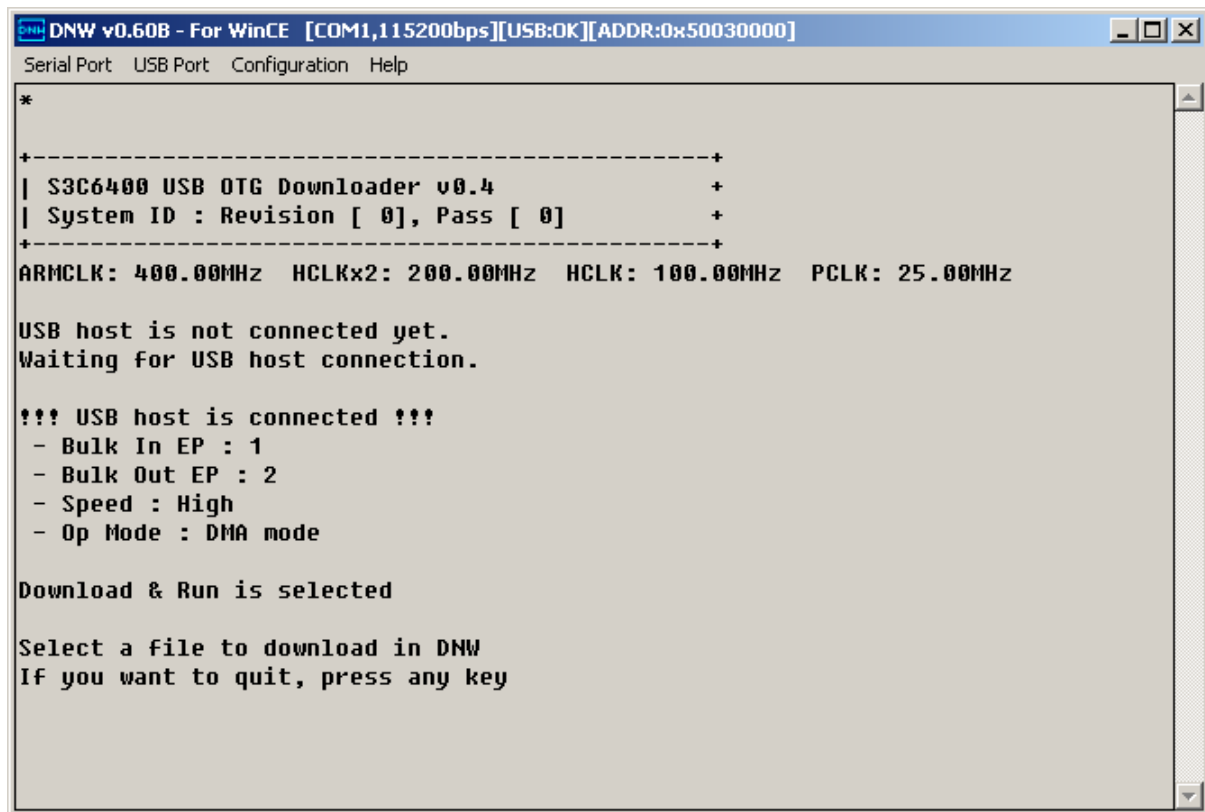

Figure 7-4 DNW Window after reset
7. Reset the board. DNW window appears as shown in figure 7-4.